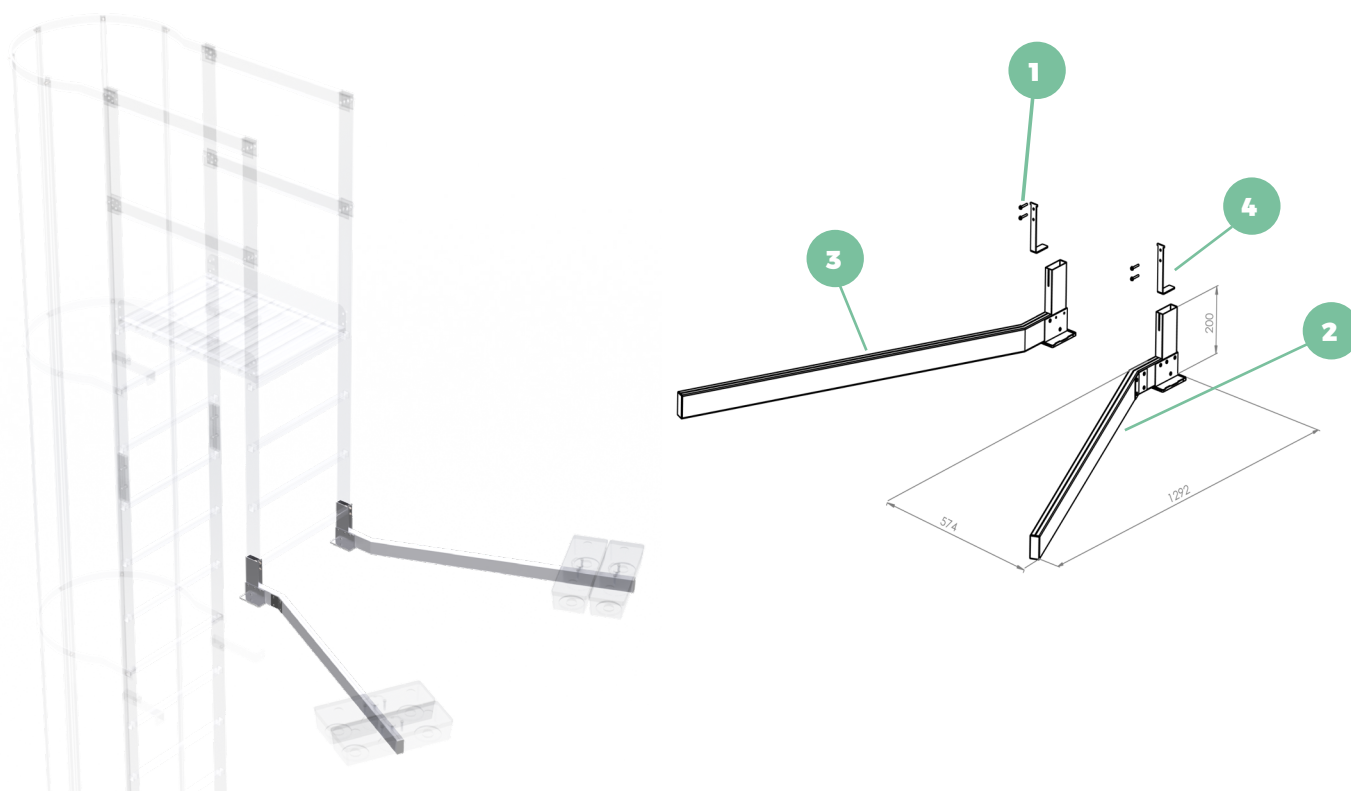

FIGURE 1
1. Connect the two 550 mm gates using the M8 x 75 mm screws, M8 washers, and M8 lock nuts, as shown in **figure 1**.
2. Insert each upright of the front exit into the base plates, as shown in Figure 1. Then fix the assembly (base plate + bracket + upright) using the 4.8 x 32 mm self-drilling screws (ref. 33222).